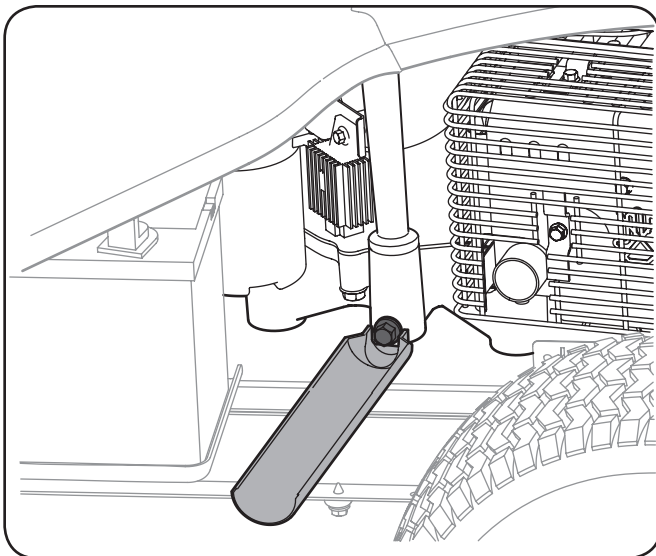

Figure 6-1
4. Snap the small end of oil drain sleeve onto the engine casting around the oil drain plug. See Fig. 6-1.